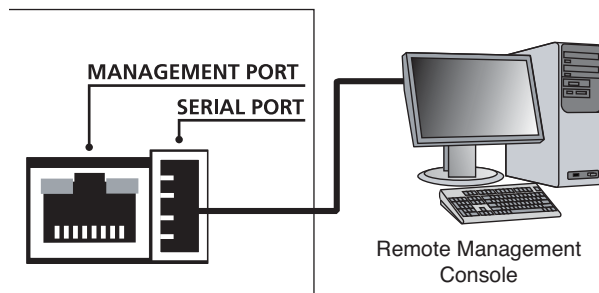

Figure 15. FATAPI/FASTAP-series serial connection with a PC device
1. First, you must connect your PC and your Filtering Link Aggregation Tap. Using the provided cable (DRL 434-6), connect the 9-pin end to the serial port on your PC, and connect USB end to the serial port on your Filtering Link Aggregation Tap as shown below in **Figure 15**: